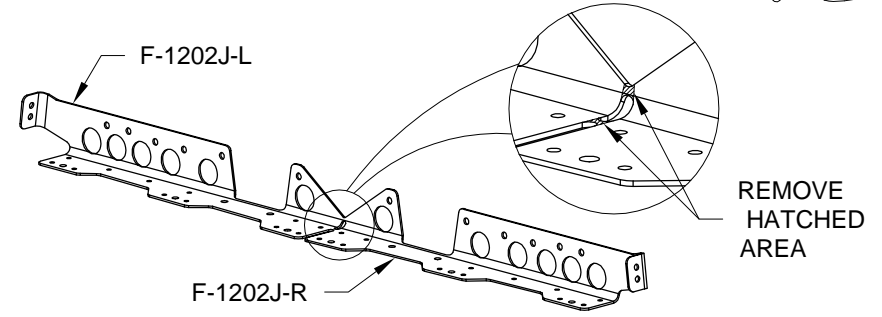

FIGURE 3: SEPARATING THE INST STACK ANGLE
Step 7: Separate the F-1202J Inst Stack Angles into left and right parts as shown in Figure 3.